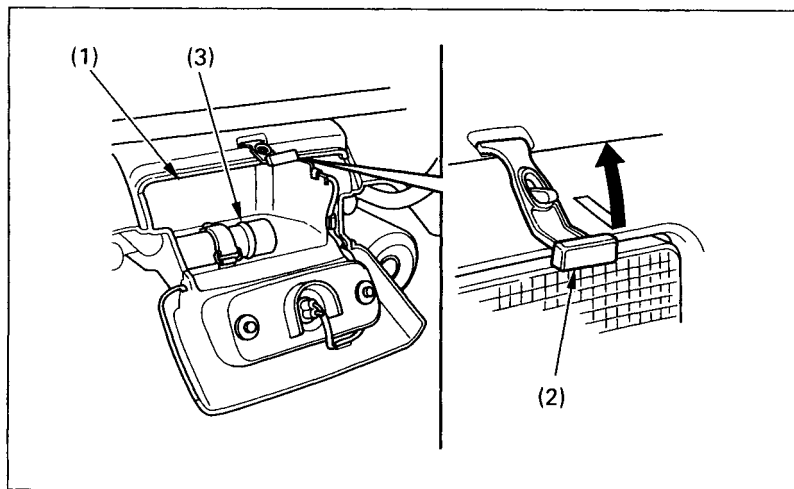

Fig. 2-30 (1) Storage compartment
The storage compartment (Fig. 2-30) is below the rear cargo rack. To open the compartment, unhook the rubber strap (2). The tool kit (3) should be stored in the storage compartment.